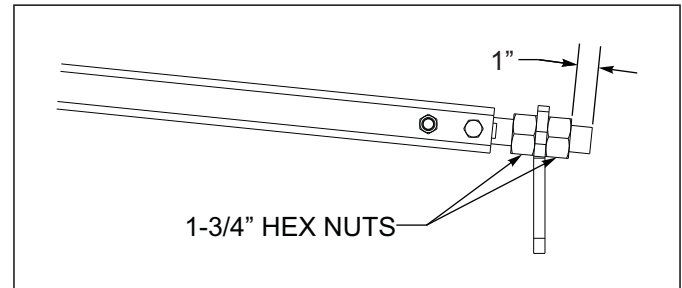

Figure 4-7: Lift Arm Adjustment
*The lift arm adjustment rods on the center frame will extend approximately 1" from the forward lift arm nut *See Figure 4-7*.*